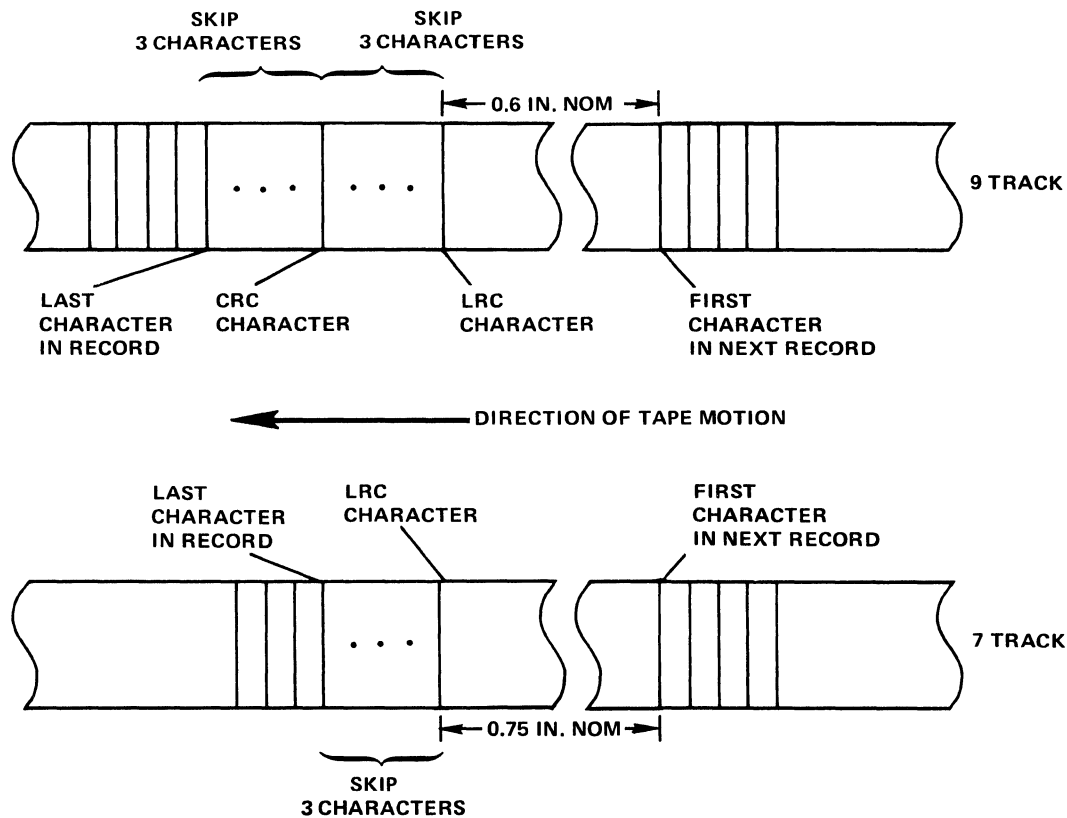

Figure 4-48. End-of-Record Formats for 7- and 9-Track NRZI Tapes
The data is formatted and recorded on the tape in blocks referred to as records. The exact configuration of a record depends on whether the tape is in 7- or 9-track format. On 9-track tape, each record consists of the data, a cyclic redundancy check (CRC) character, and a longitudinal redundancy (LRC) character. The CRC character must occur four character times after the final data character, and the LRC character must occur four character times after the CRC. A minimum spacing of 0.5 inch is required between records. The end of a record is shown in figure 4-48.
On 7-track tape, each record consists of data, followed by an LRC character only, as shown in figure 4-48. Minimum spacing between data records is 0.6 inch.
The data is formatted on the tape in records, with each record consisting of a preamble, the data, and a postamble. See figure 4-48. The preamble consists of 40 characters of logical 0's and one character of logical 1. The postamble is a mirror image of the preamble, and consists of one character of logical 1 and 40 characters of logical 0's. A minimum spacing of 0.5 inch is required between records. PE data is always recorded on 9-track tape.
- e. After the last character in the record is written, the formatter will gate the proper CRC, LRC, as they are shown in figure 4-48, 4-50 and 4-51.